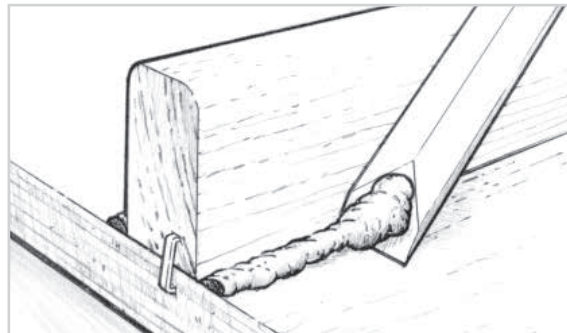

Figure 16-11 Remove excess epoxy before it begins to gel. A sharpened mixing stick makes an excellent cleanup tool.
4. Remove or shape excess adhesive that squeezes out of the joint as soon as the joint is secured with clamps. A 804 Reusable Mixing Stick is an ideal tool for removing the excess (Figure 16-11).